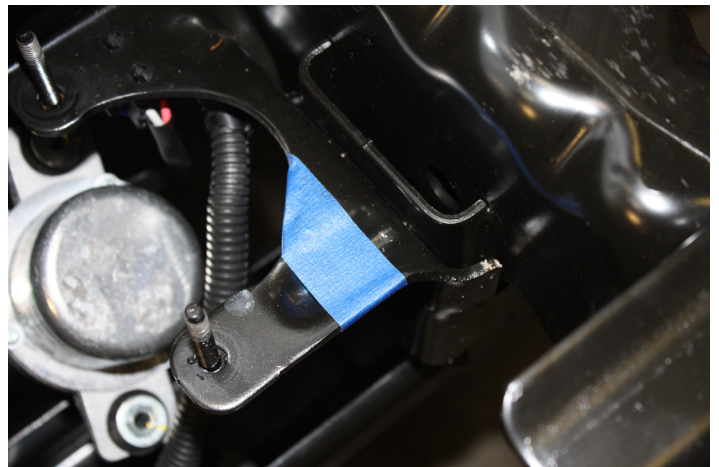
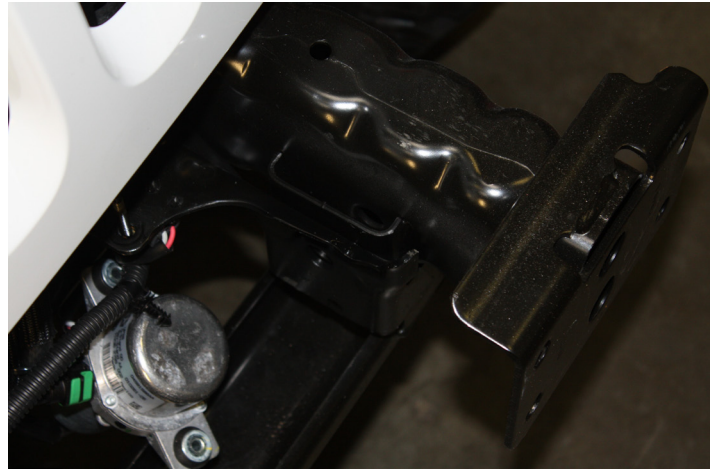

Figure 7
Figure 8
8. Remove the canister from the inside of the driver side frame rail if equipped. Remove the 2 nuts and lift the canister over the studs and rotate it so the hose and fitting are facing forward. Allow it to carefully hang by the lines for now. Figure 7.
9. Trim the canister bracket as shown in Figure 7. Use a hacksaw or reciprocating saw with metal blade. Be careful not to damage any lines or wires. Touch up raw edge with paint to prevent rust. Figure 8